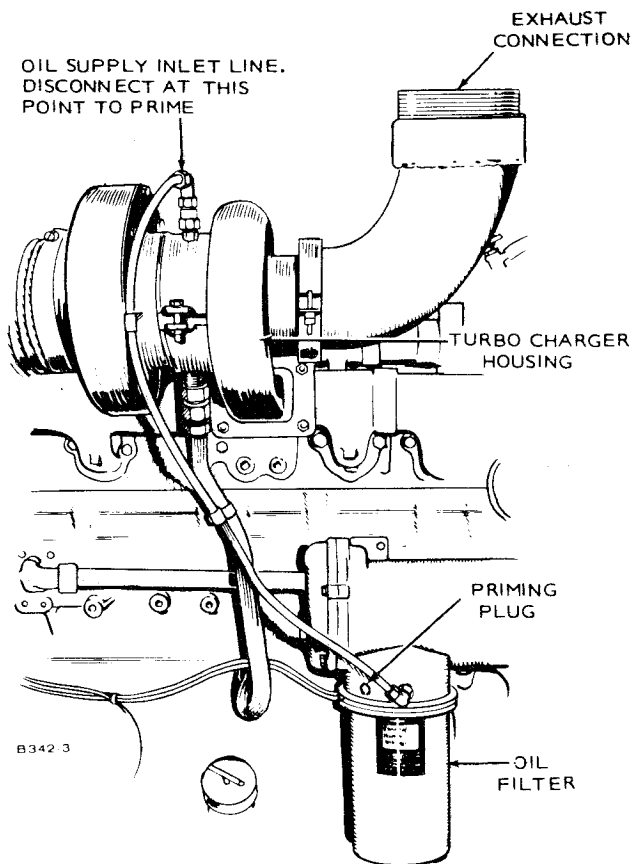

FIGURE 22. PRIMING TURBOCHARGER
For 3 phase loads, connect separate load wires to each of the set terminals L1, L2 and L3. Single phase output of the higher nameplate voltage is obtained between any two 3 phase terminals as shown in Figure 22.
1. Remove oil inlet line from turbo-charger housing (Figure 22), fill bearing housing with clean engine lubricating oil; replace line, secure.
3. Remove plug from head of oil filter housing (Figure 22) and connect a hand or motor-driven priming pump from a source of clean lubricating oil to the plug boss in filter housing.